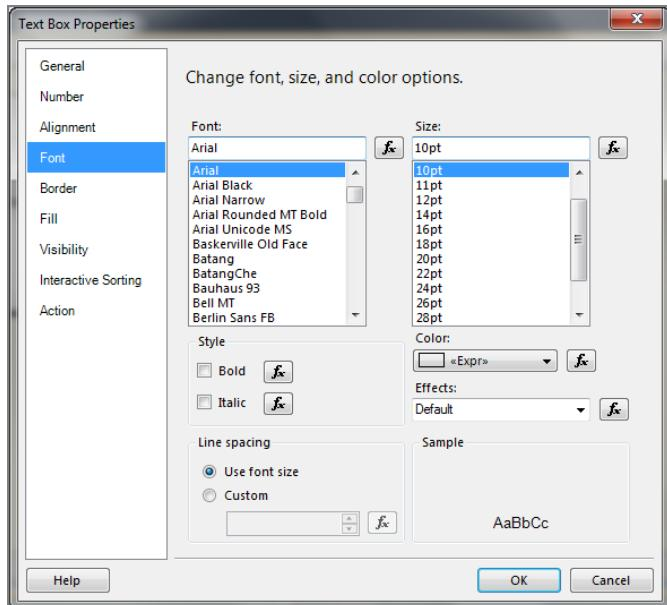

Figure 4-7
2. On the Font page, shown in Figure 4-7, notice that each font property has an `fx` icon adjacent to it. Click the icon to launch the Expression dialog for the selected property.